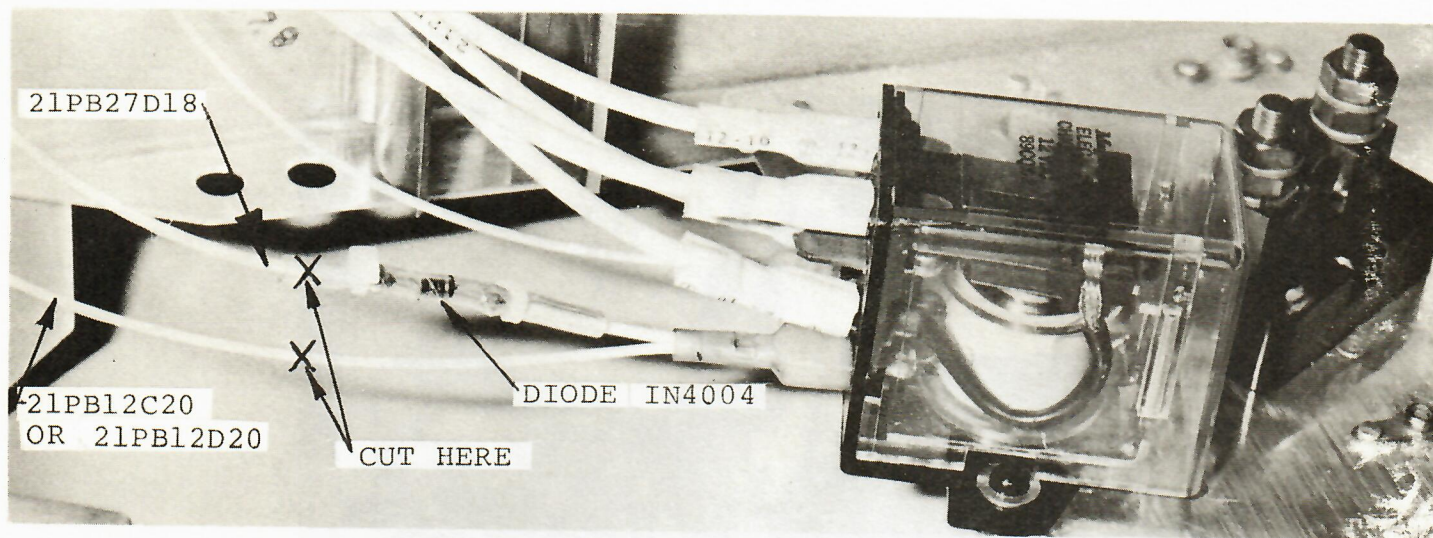

FIGURE 2
- 1) Cut wires 21PB12C20, (or 21PB12D20) and 21PB27D18 as shown in Figure 2 [approximately 3" from terminal #1 of the radio master relay.]